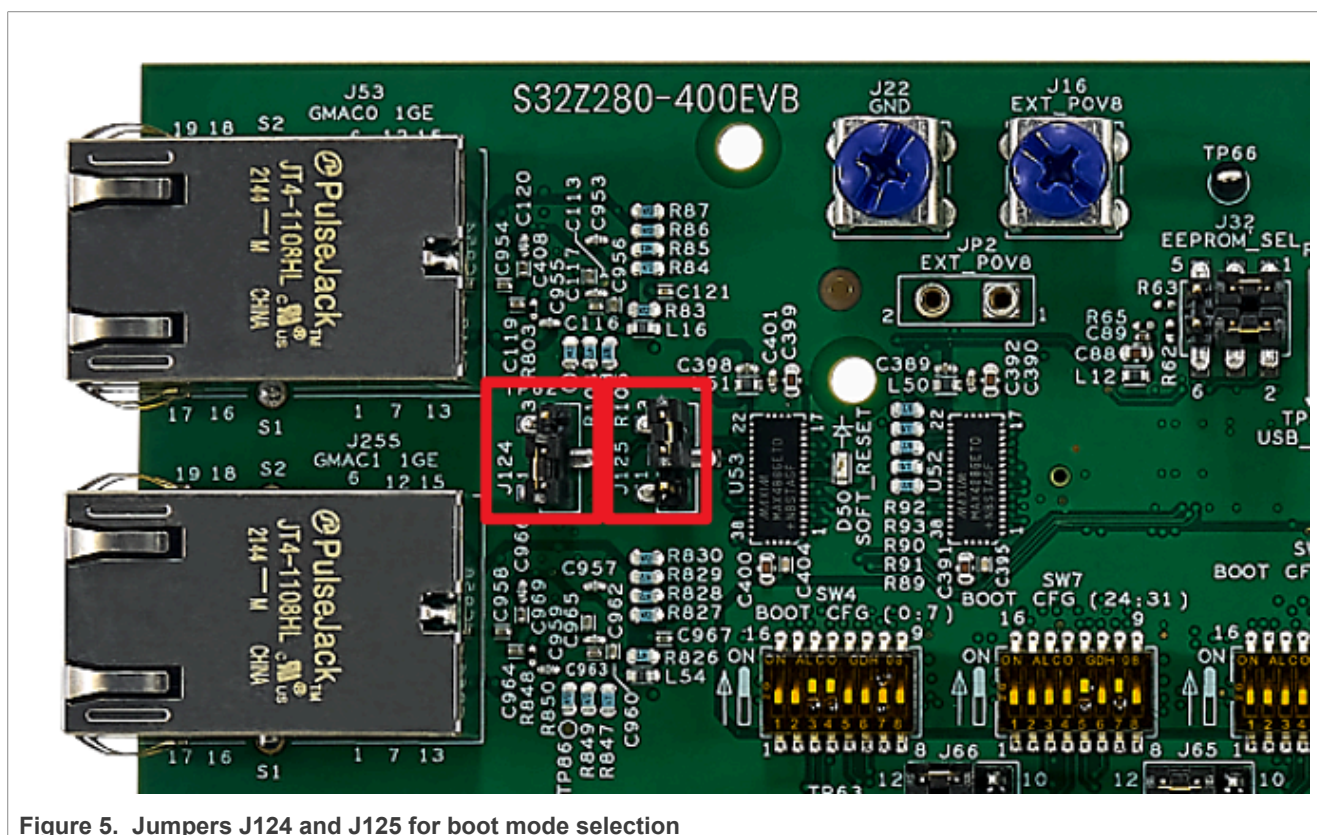

Figure 5. Jumpers J124 and J125 for boot mode selection
- Set the jumpers as shown in the figure 5: